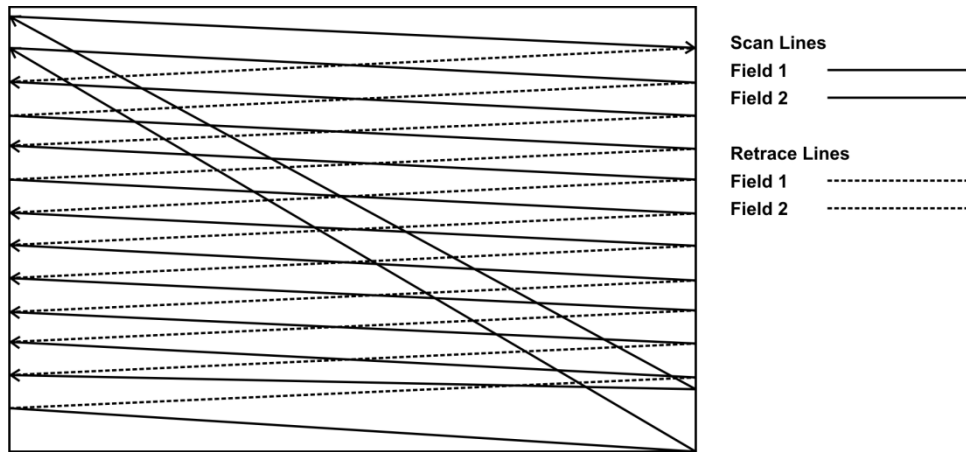

Fig. 12.7 Television Scanning
6. As figure 12.7 shows, the picture is scanned from left to right and top to bottom. The electron beam that scans the picture is blanked during the time intervals the beam retraces its path, from right to left and from bottom to top. These time intervals are called the horizontal and vertical blanking intervals respectively.